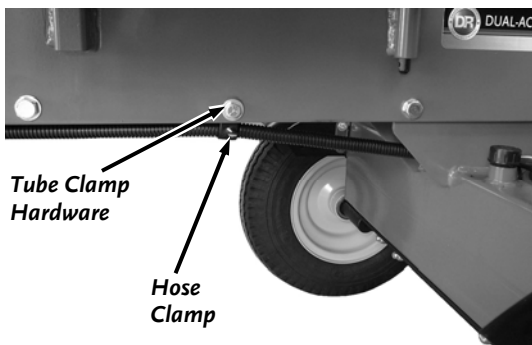

Figure 42
6. Remove a Bolt, Washer and Locknut at the center of the Frame on the Left side with two 9/16" Wrenches (**Figure 42**). Place the large Tube Clamp over the Harness and secure to the Frame with the Bolt, Washer and Locknut from the kit. Tighten the Clamp Hardware with two 1/2" Wrenches.